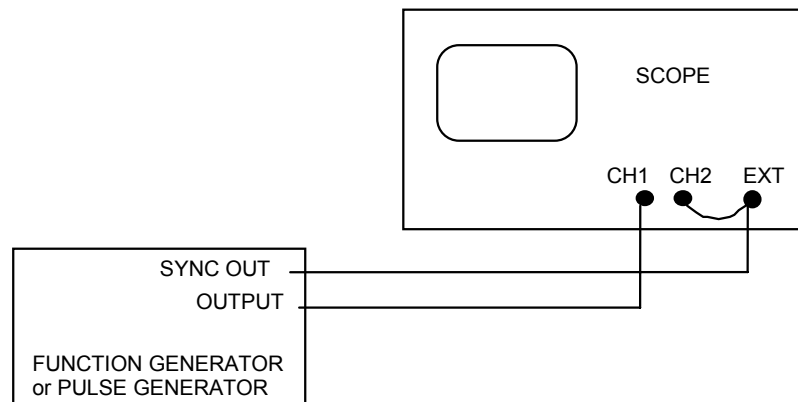

Figure 2-4
- Connect the function generator to the oscilloscope as shown in Figure 2-4.
Change the cables to the function generator as shown in Figure 2-4. Adjust the function generator to produce a sine wave of about 1 kHz.